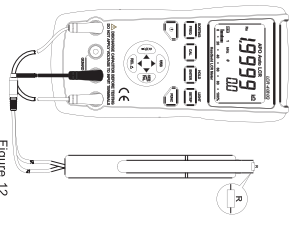

Figure 12
3) Insert the resistor into input terminals or connect the resistor to the meter using the test clamp.(See Figure 12).